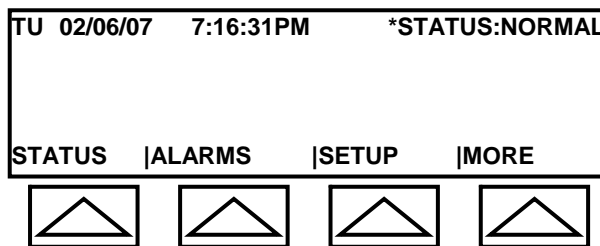
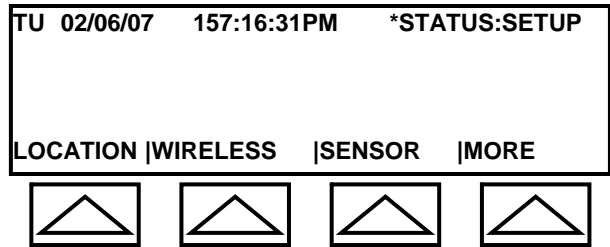

Fig. 4-2a: Main Menu – Screen #1
Fig. 4-4a: Setup Menu – Screen #1
All programming begins at the MAIN Menu, which has a total of five screens (see Figures 4-2a through 4-2e). To advance from one screen to the next, select MORE on the bottom line of the LCD (press the arrow key directly beneath it). Selecting MORE in Screen #6 will return the LCD to Screen #1.
The fourth line has ENTER and EXIT fields. The ENTER field will be selected after entering all of the data on the third line. If the EXIT field is selected, the LCD display will return to Screen #1 of the Main Menu (see Figure 4-2a) without entering the data.
If the wrong security code is entered, the system will return to Screen #1 of the Main Menu (see Figure 4-2a). If the correct security code is entered, the system will proceed to the Screen #1 of the SETUP Menu (see Figure 4.4a).
*Note: To return to the MAIN Menu from the Location Submenu, select EXIT and then press the MENU key. The LCD returns to Screen #1 of the MAIN Menu (see Figure 4-2a).*